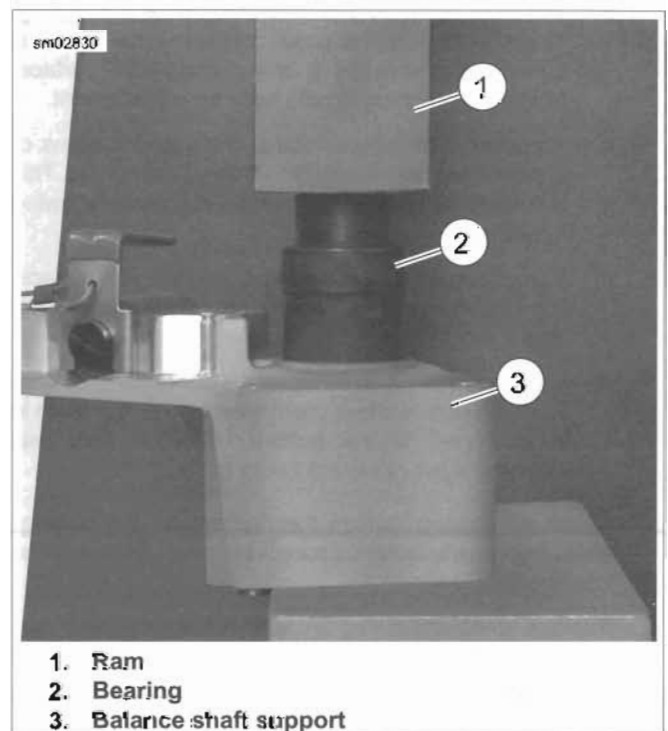

Figure 3-155. Removing Bearing from Shaft Support
- See Figure 3-155. Place housing (3) on a suitable support with top surface facing up.
- Place bearing remover end of **OUTER BALANCER BEARING REMOVER AND INSTALLER** (Part No. HD-48474) (2) over bearing.
- Center bearing remover under ram (1) of press. Slowly lower ram to remove bearing.